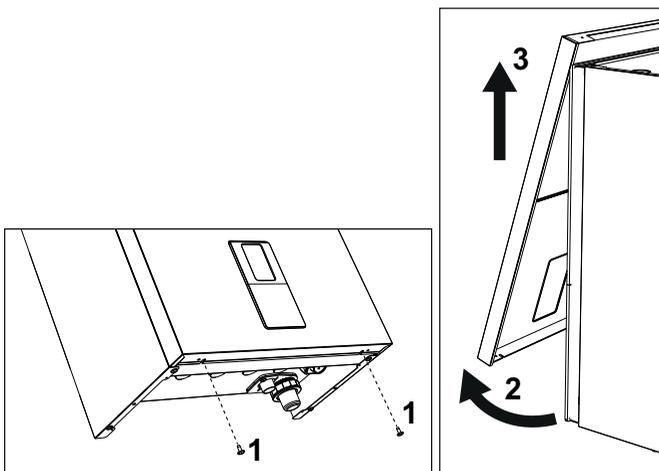

fig. 56- Front panel opening
1. Undo the screws "1" (see fig. 56).